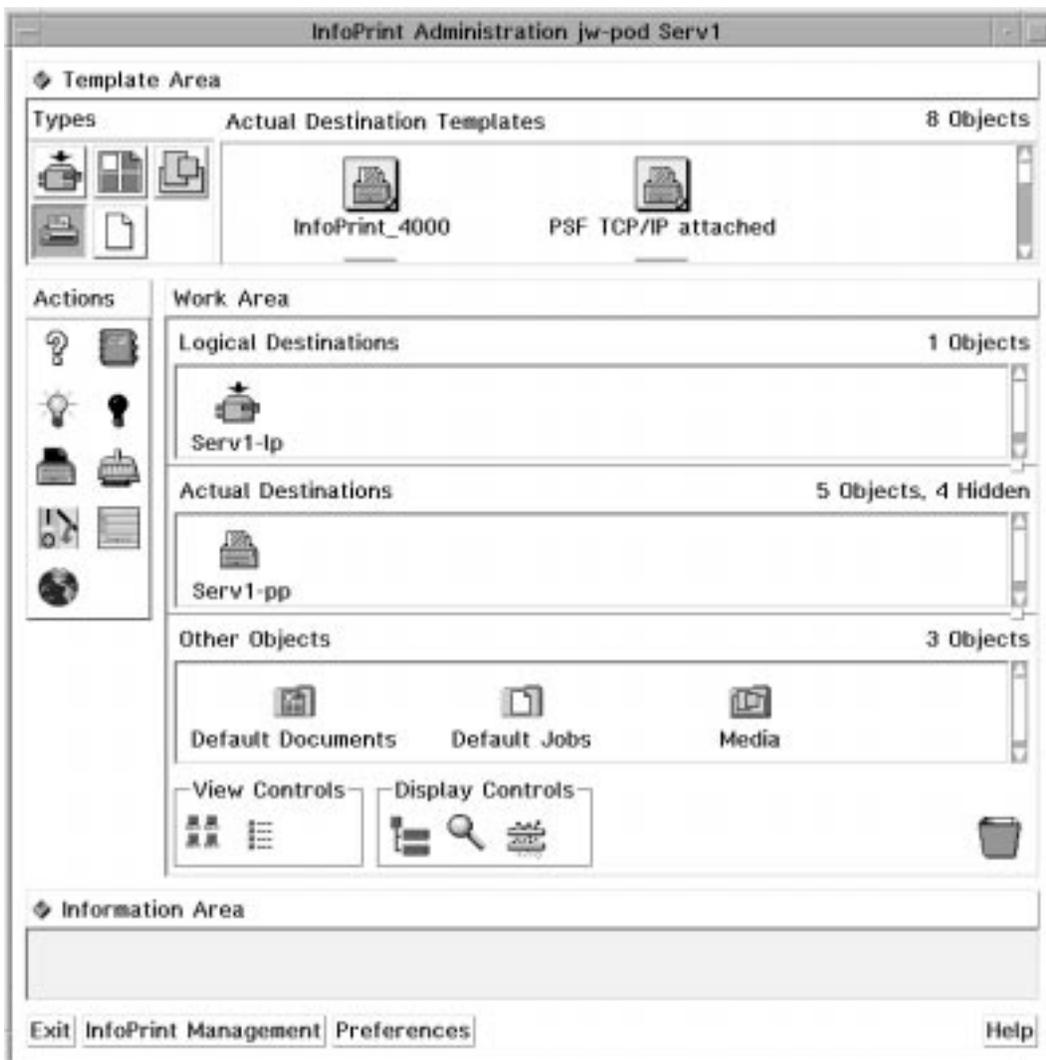
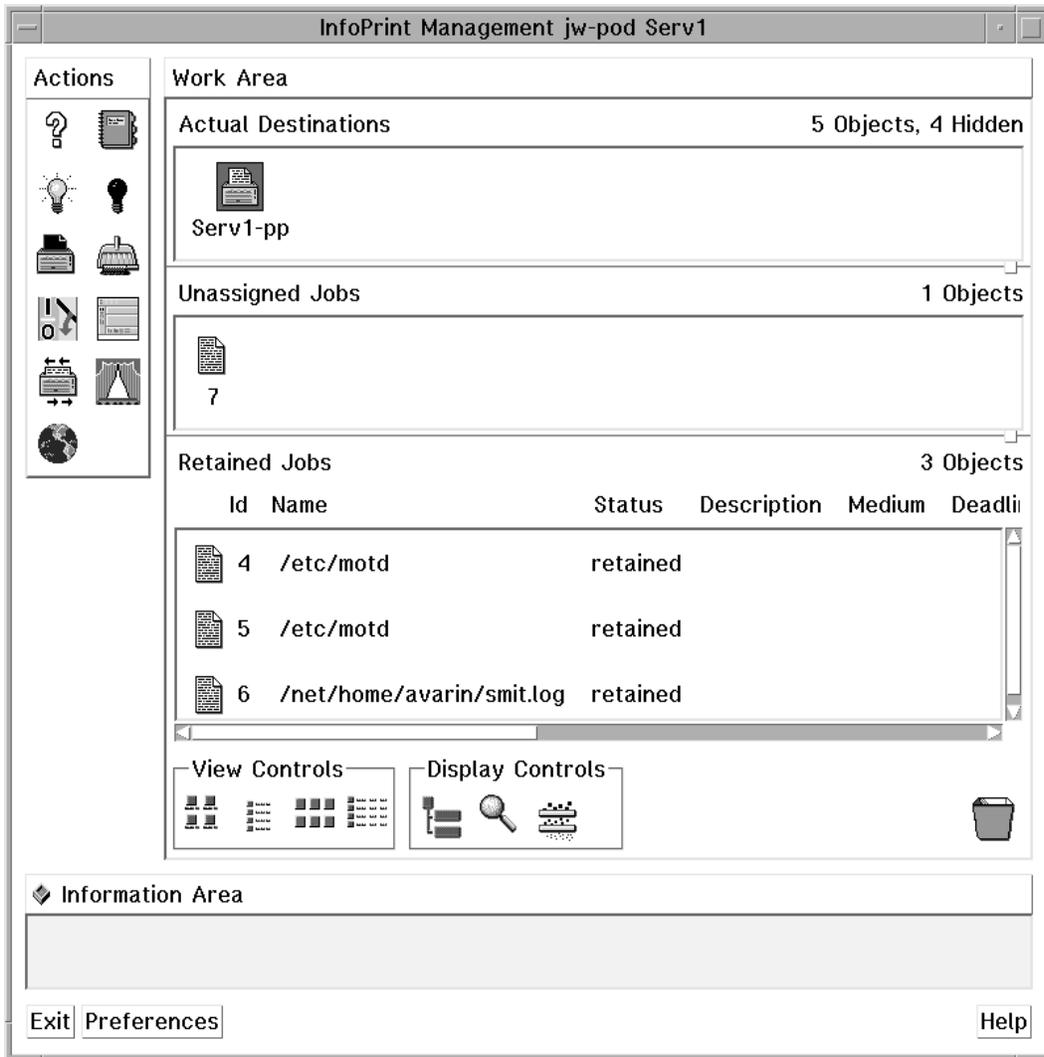
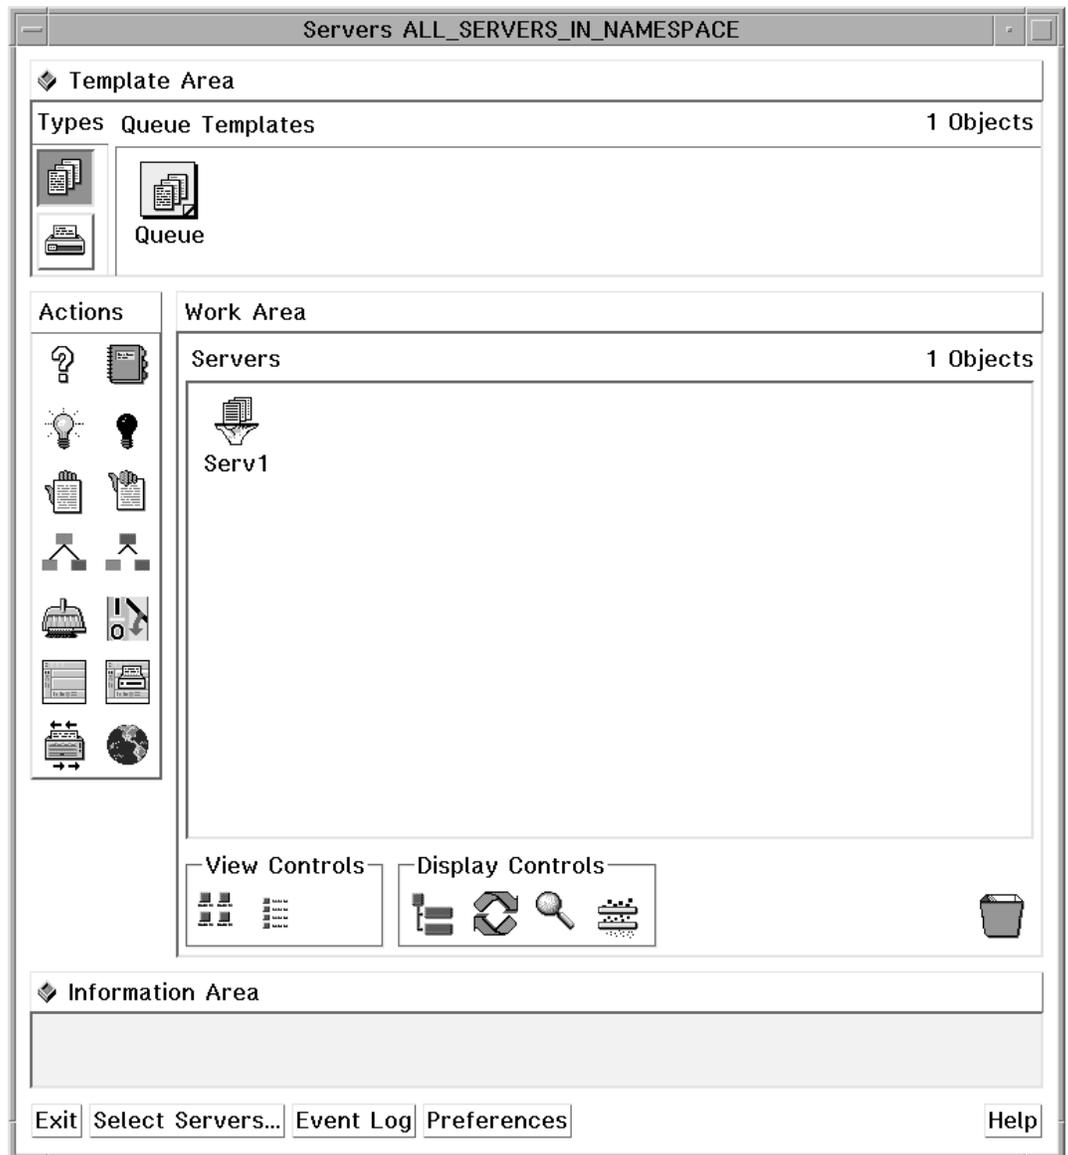

Figure 7. Print Administration Window (Basic InfoPrint Administrator's GUI)
Figure 8. Print Management Window (Basic InfoPrint Administrator's GUI)
Figure 9. InfoPrint Servers Window (Advanced InfoPrint Administrator's GUI)
2. Select **Print Administration** to open a Print Administration window similar to Figure 7; or select **Print Management** to open a Print Management window similar to Figure 8 on page 23.
to open a Print Administration window similar to Figure 7 on page 22; or enter:
to open a Print Management window similar to Figure 8.
3. Double-click on the **Administration GUI** icon to open an InfoPrint Servers window similar to Figure 9 on page 25.
The application windows all have the same format. An application window contains an Actions area, a Work Area, and an Information Area. If you can create objects from the window, it also contains a Template Area. Both the Print Administration window of the basic InfoPrint administrator's GUI (Figure 7 on page 22) and the Servers window of the advanced InfoPrint administrator's GUI (Figure 9 on page 25) contain each of these areas.
The Work Area may be split into *panes* that contain different classes of objects. Figure 9 on page 25 shows a pane for servers in the Work Area. Figure 7 on page 22 shows three panes for logical destinations, actual destinations, and other objects.
When an object in a pane has related objects, you can open a new space within the pane that is called a *well*. A well is connected to the object and displays its related objects. Figure 9 shows a well for queues. The online help describes the various ways to open and close wells.